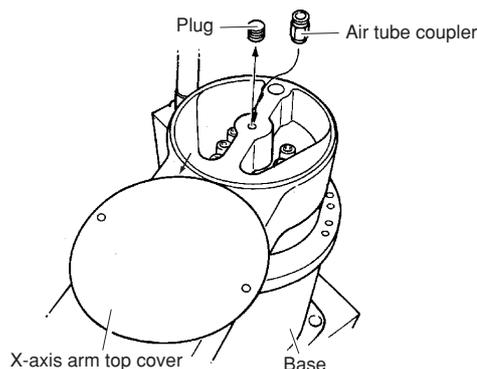

Fig. 5-69
- 6) Remove the plug on the top of the X-axis arm. (See Fig. 5-69.)